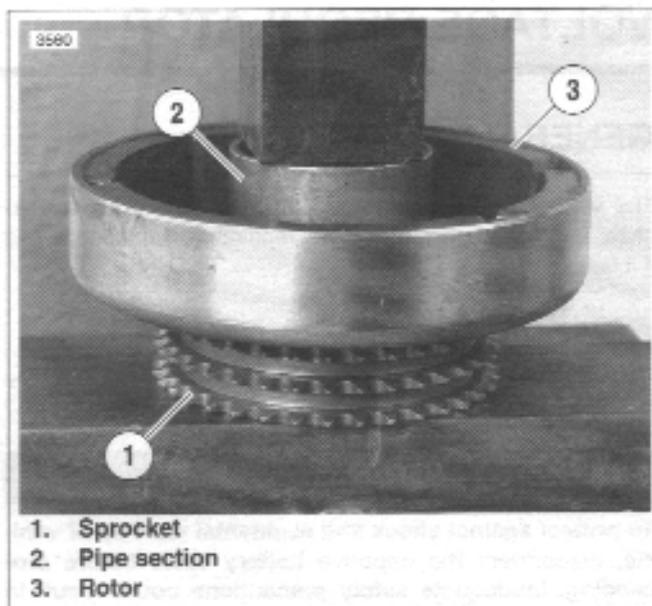

Figure 7-32. Pressing Rotor onto Sprocket
5. See Figure 7-32. Attach rotor to sprocket.
- a. Position rotor (3) on sprocket (1). Align holes in sprocket with holes in rotor.
- c. Position a section of pipe (2) with an inside diameter larger than the sprocket mounting hub over center of rotor. Press rotor onto sprocket. Tighten fasteners to 90-110 **in-lbs** (10-12 Nm).